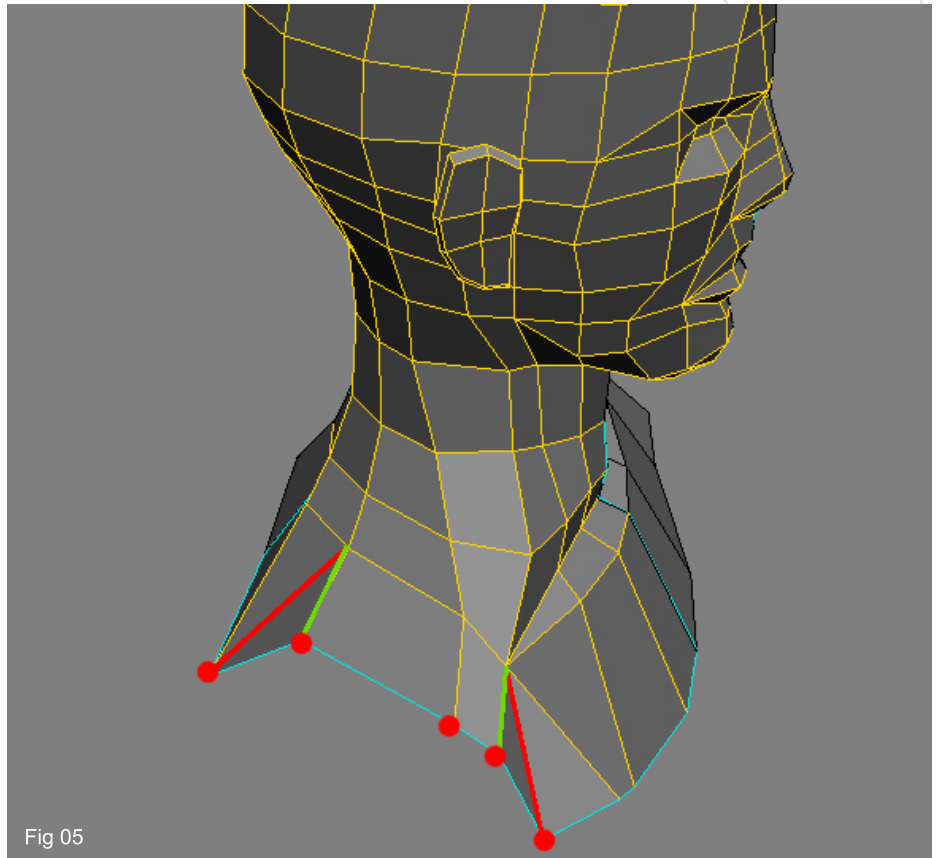

Fig 05
5. We need to adjust the ending of the shoulder so that we can extrude the arm later on. Create some new cuts like shown in green and red in Fig05, and move the vertices (marked in red in Fig05).